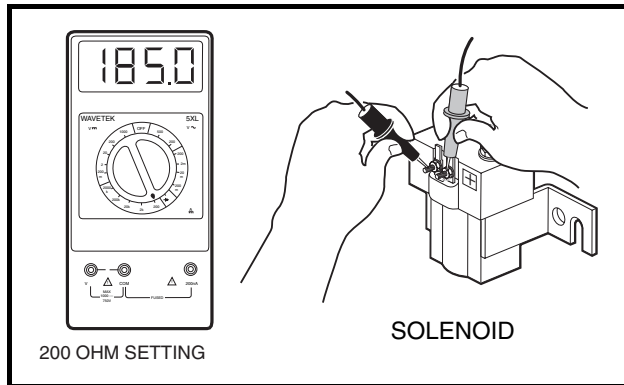

Figure 11-18 Solenoid Activating Coil Test
- Place red (+) probe of the multimeter on the positive (+) solenoid terminal. Place the black (–) probe on the other small solenoid terminal. A reading of 180 to 190 ohms should be obtained (**Figure 11-18, Page 11-19**). If not, replace the solenoid.